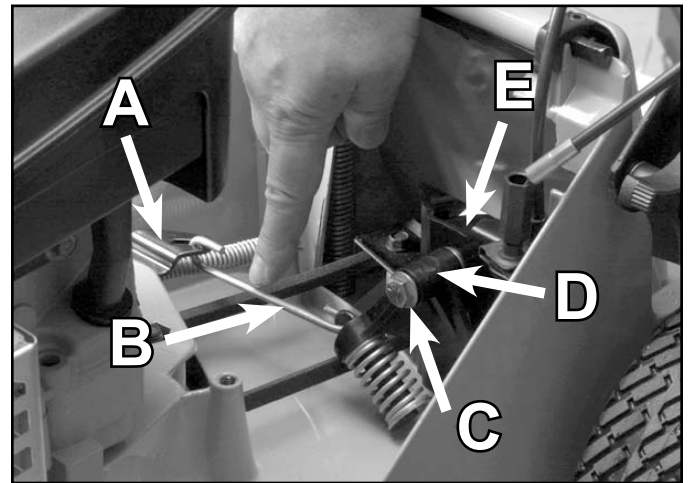

Fig 167
3. Note the orientation of the control link in Figure 167. Make sure that it is installed correctly into the bellcrank.